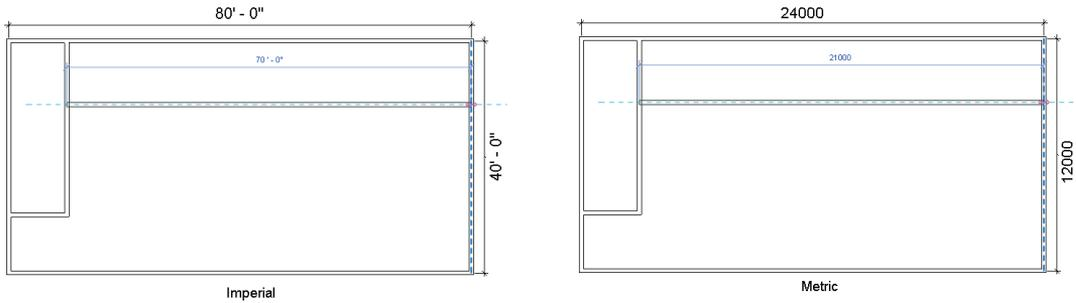

**Figure 3-66** Specifying the first interior wall segment
2. Next, move the cursor vertically downward and enter **30'** for Imperial (**9000 mm** for Metric), as shown in Figure 3-66; the first interior wall segment is sketched.